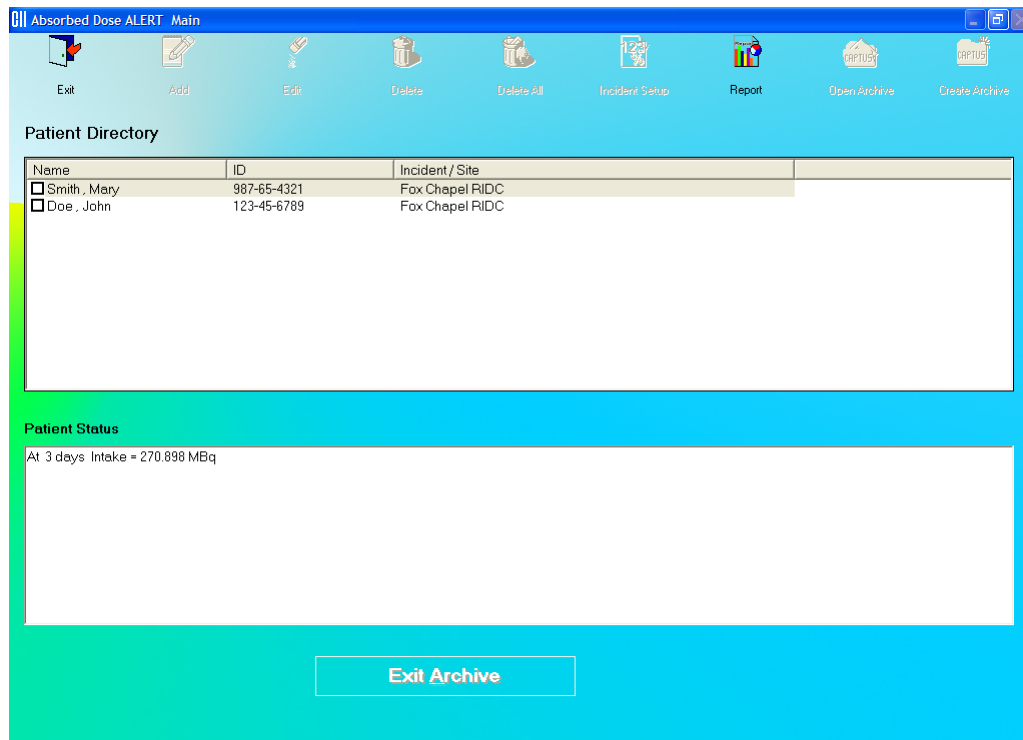

Figure 9-31
2. Select the desired database and click the  button. The Absorbed Dose ALERT Main Screen will appear similar to that shown in Figure 9-31 with the patient list from the opened database displayed.